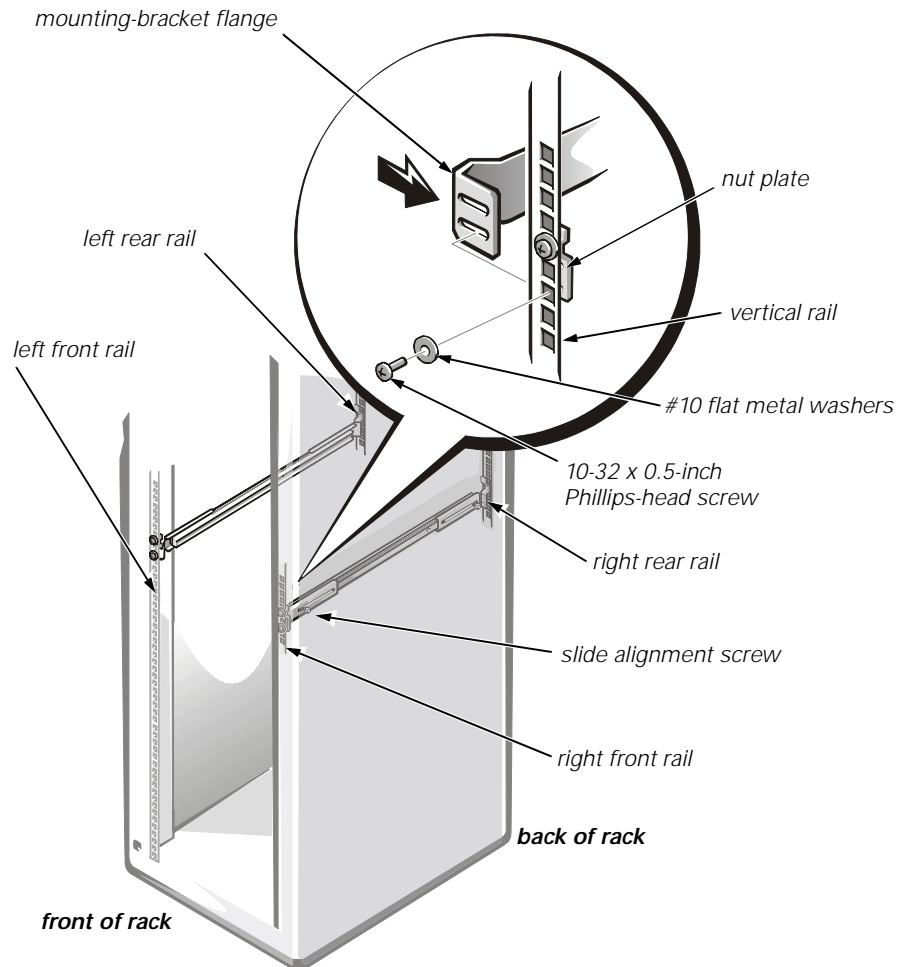

Figure 5. Installing the Slide Assemblies
3. Using a Phillips-head screwdriver, slightly loosen the slide alignment screw that holds each front slide-mounting brackets to the exterior slide (see Figure 5). You will tighten the screw later in this procedure.
- a. Insert the slide's mounting-bracket flange between the nut plate and the rack's vertical rail at the front and back of the rack as shown in Figure 5.
- b. Position the mounting bracket at the front of the slide assembly so that its two slots are aligned with the two lowest holes in the nut plate (see Figure 5). Secure the mounting bracket with one 10-32 x 0.5-inch Phillips-head screw and one #10 flat metal washer. Do *not* completely tighten the one mounting screw until you install the 1-U tray and verify that the width between the slide assemblies is correct.